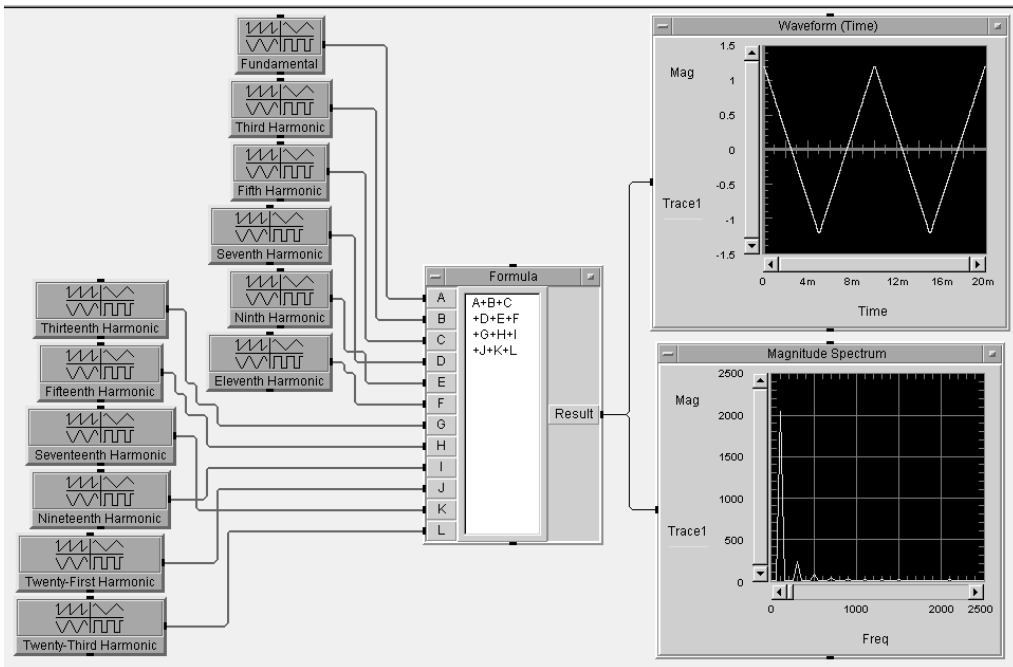

Figure 13.8. Simulation of a triangular wave
7. Run this program; it should look like Figure 13.8.